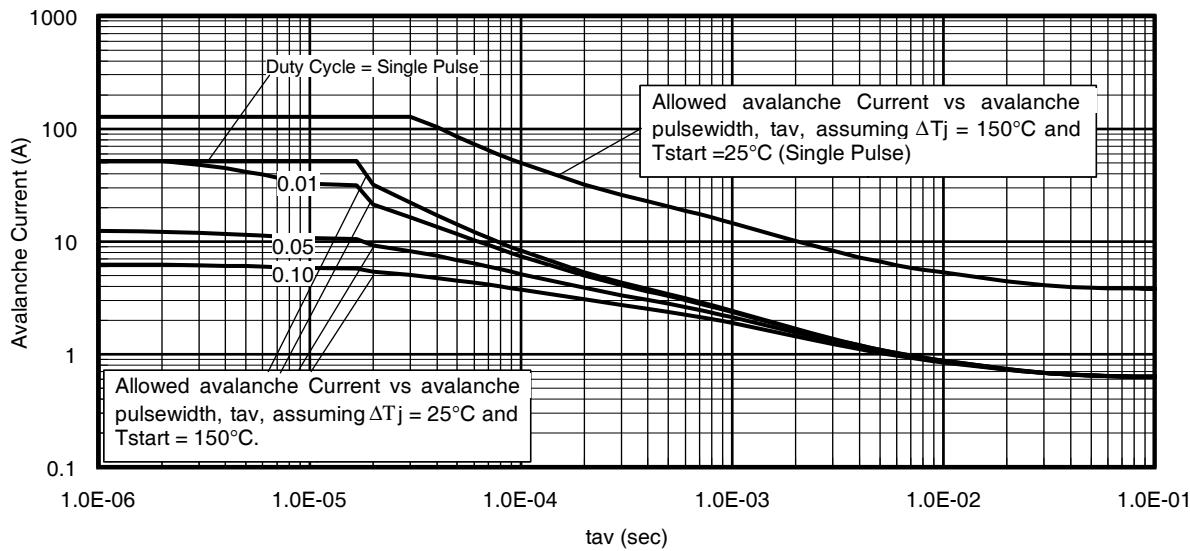

Fig 14. Typical Avalanche Current vs.Pulsewidth
Notes on Repetitive Avalanche Curves , Figures 14, 15 (For further info, see AN-1005 at www.irf.com)
7. ΔT = Allowable rise in junction temperature, not to exceed T_{jmax} (assumed as $25^{\circ}C$ in Figure 14, 15).